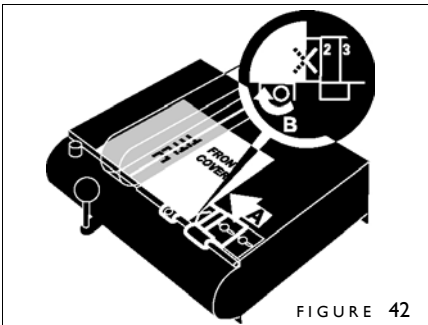

FIGURE 42
4. With the Centering Guide Lock unlocked, slide the Centering Guide **under** your cover until the cover right edge (A) lines up with the middle of the X (figure 42). Then tighten the Centering Guide Locking Knob (B).